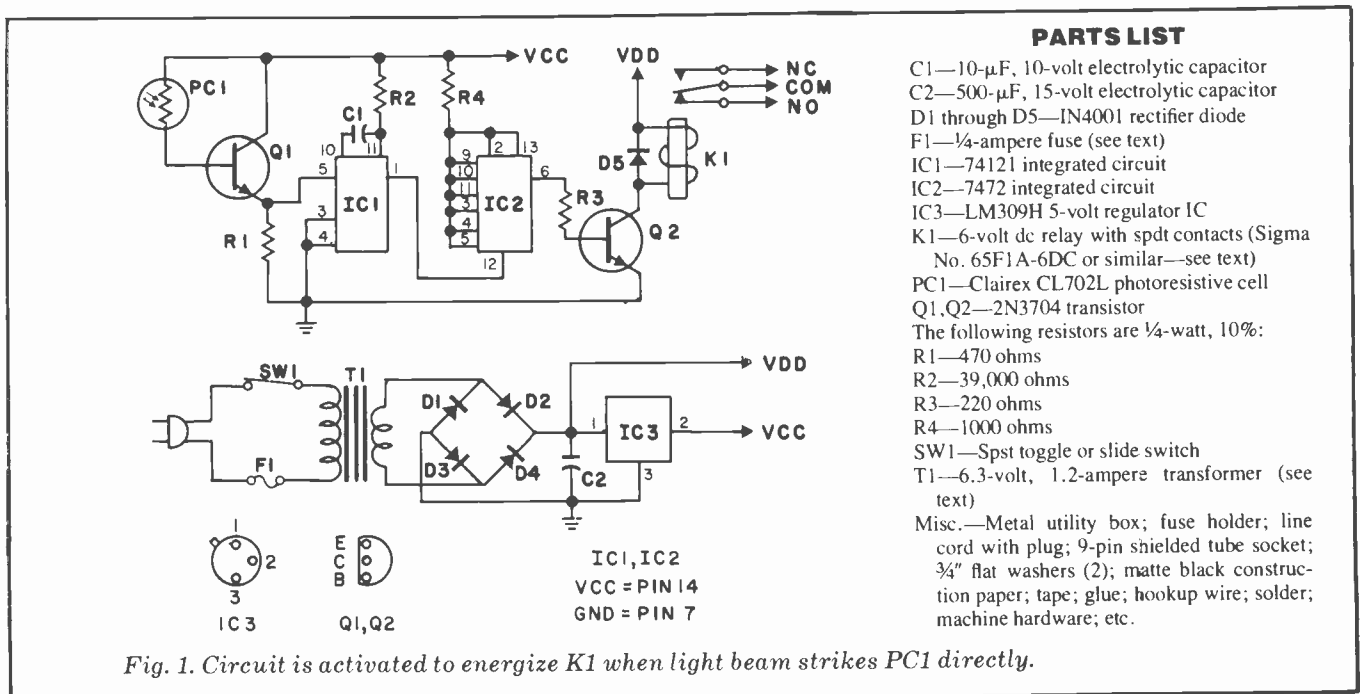

Fig. 1. Circuit is activated to energize K1 when light beam strikes PC1 directly.
**Circuit Operation.** The schematic diagram of the Genie is shown in Fig. 1. A light shield is used to prevent random ambient light from striking the photocell, PC1. The latter provides base bias for emitter follower Q1. Small, relatively constant amounts of light only vary the quiescent operating point of the circuit
The power supply is also shown in Fig. 1. It provides power for the relay and regulated 5 volts, through *IC3*, to operate the logic.